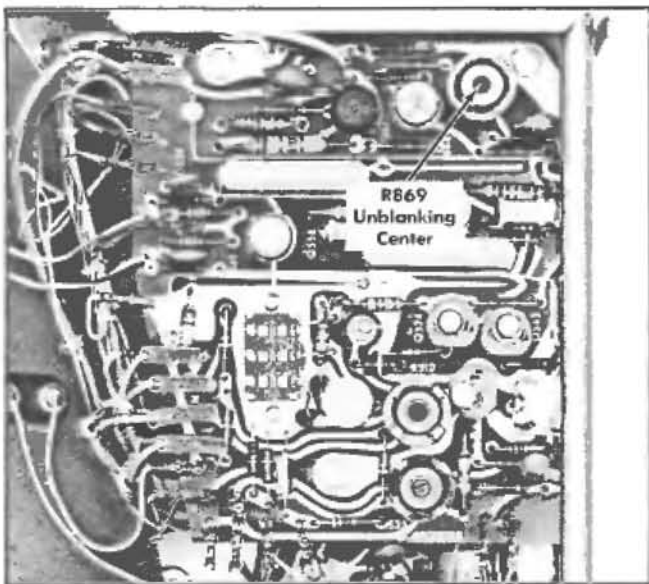

Fig. 6-8. Location of Unblanking Center adjustment (Horizontal Amplifier board).
c. ADJUST—Unblanking Center adjustment, R869 (see Fig. 6-8), for maximum trace intensity. This should occur near the center of control rotation.